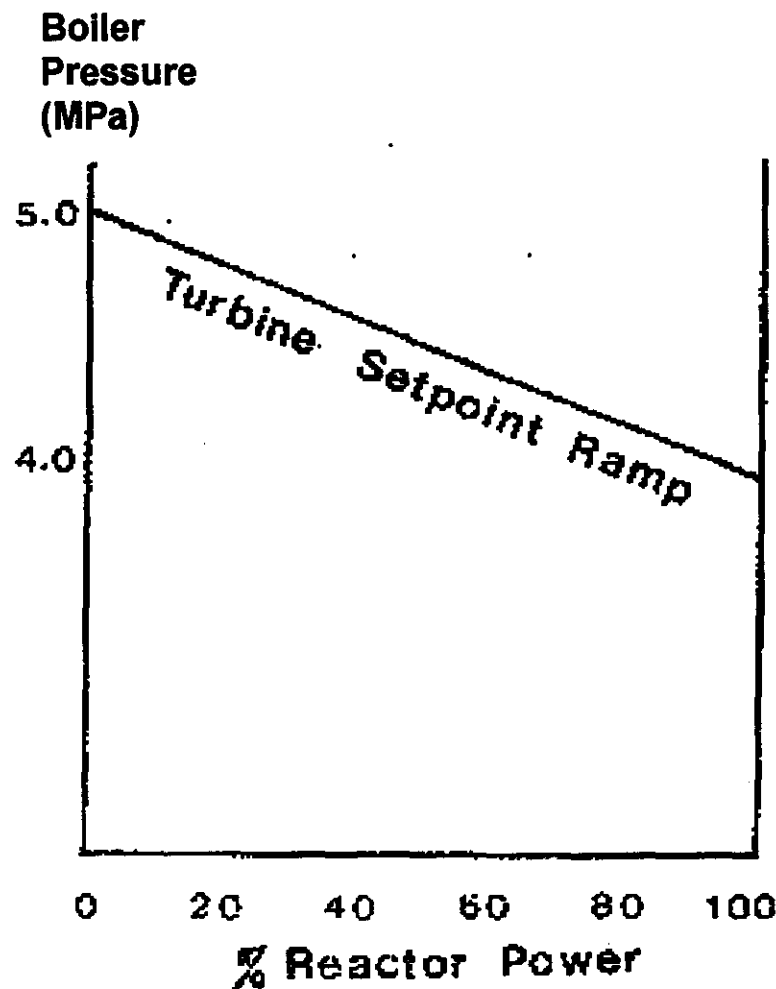

Figure 2: Ramped Boiler Pressure.
- The boiler pressure setpoint as a function of reactor power is a constant value at some plants, while at others it is ramped negatively (Figure 2).
- As the reactor power is increased, the energy supplied to the boilers is raised. At the same time, a lower boiler pressure setpoint is calculated to satisfy the ramp of Figure 2.